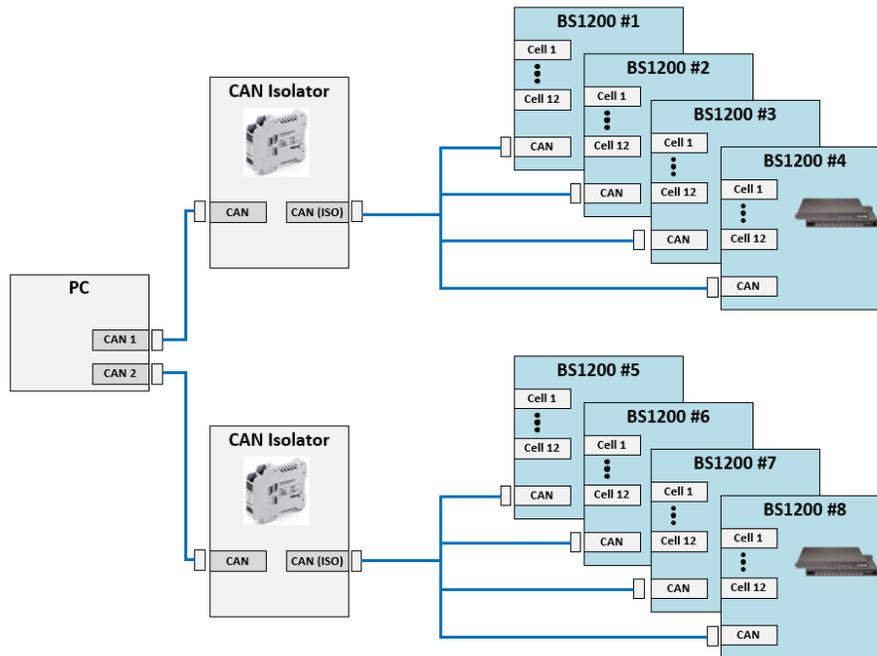

Figure 4: Install one CAN isolator per 2-4 Battery Simulator 1200s when CAN communications are used.
- a) Use a CAN isolator/repeater, such as a PEAK PCAN-Repeater3, to connect a network of Battery Simulator 1200 instruments to the CAN ports of a computer and other CAN devices. For optimum performance, we recommend one CAN isolator/repeater per 2-4 Battery Simulator 1200 instruments, each connected to a separate CAN interface port on the computer or CAN controller. (See Figure 4.)